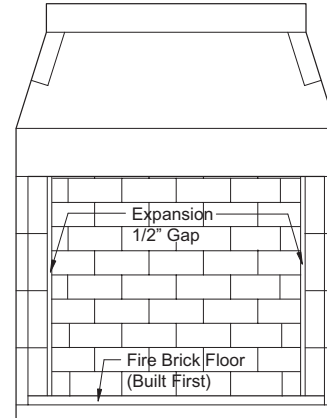

FIGURE 77
4. Next, apply firebrick to the back wall of the unit. The back wall firebrick covers the 1/2" expansion gap left at the brick floor along the back wall of the firebox. **(Figure 77)**